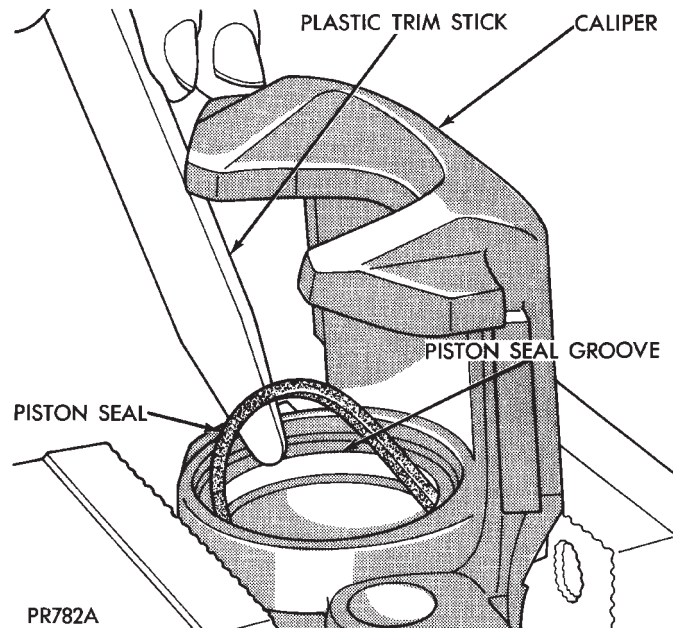

Fig. 85 Removing Piston Seal From Caliper
(8) Using a soft tool, such as a plastic trim stick, work piston seal out of its groove in caliper piston bore (Fig. 85). Discard old seal. **Do not use a screw driver or other metal tool for this operation, because of the possibility of scratching piston bore or burring edges of seal groove.**
(9) Clean all parts using alcohol or a suitable solvent and wipe dry **using only a lint free cloth**. No lint residue can remain in caliper bore. Clean out all drilled passages and bores. **Whenever a caliper has been disassembled, a new boot and seal must be installed at assembly.**
(10) Inspect the piston bore for scoring or pitting. Bores that show light scratches or corrosion can usually be cleared of the light scratches or corrosion using crocus cloth. Bores that have deep scratches or scoring should be honed. Use Caliper Hone, Special Tool C-4095, or equivalent providing the diameter of